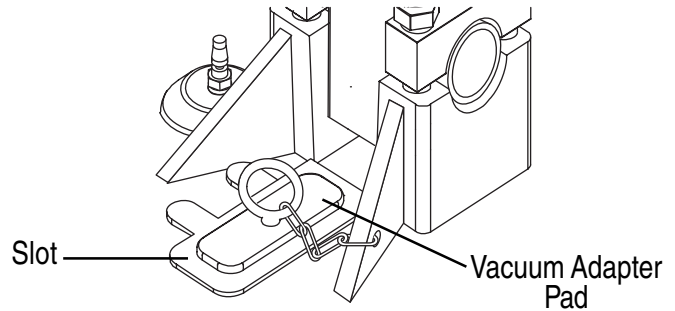

Figure 12. Vacuum Adapter Pad Insertion
4. Insert supplied vacuum adapter pad into slot on base of drilling rig as shown in Figure 12.